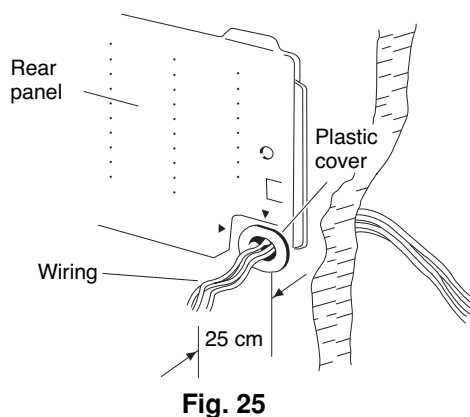

Fig. 25
- (3) Insert the inter-unit wiring into the through-the-wall PVC pipe. Lead the power wiring into the room allowing approx. 25 cm to extend from the wall face. (Fig. 25)